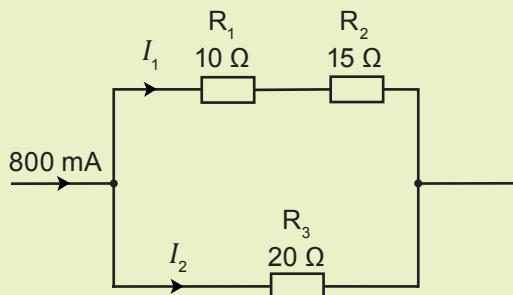

Figure 4.38
- Using the current-divider formula, calculate the current flowing through each resistor for the circuit in Figure 4.38.